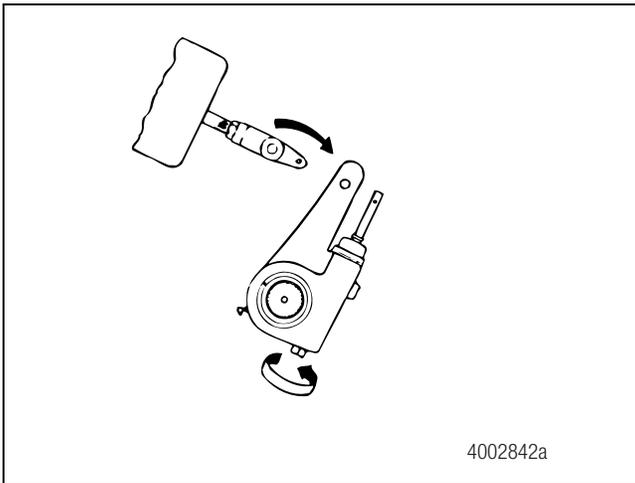

Figure 17
5. Remove the clevis pin(s) from the clevis on the automatic slack adjuster and rotate the slack adjuster away from the clevis. Figure 17.